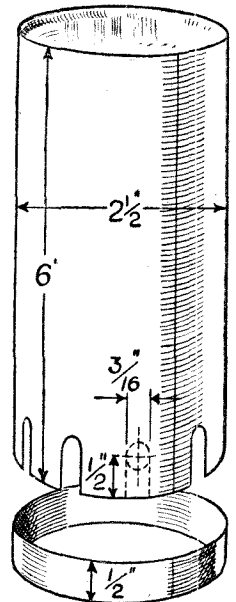

Fig. 2.—Details of a screening can which can be made from sheet copper.
H.T. battery. This type of valve is available with four-pin base, and the original anode pin in Fig. 2 should then be joined to the new H.T. tapping, whilst the lead shown in that illustration joined to the anode terminal will be connected to the top cap on the valve. A 4-pin H.F. pentode may, of course, be employed in place of the S.G. valve. A variable-mu type of valve cannot be used in a straight detector stage unless the variable characteristics are neglected, and a straight type of valve is therefore called for.
If it is considered desirable to screen the coils completely there are two effective methods. One is to obtain screening cans about 2 1/2 ins. in diameter by approximately 6 ins. long. The coils would then be fixed to the base or lid with small angle brackets, or by fitting them over 1 1/2 in. diameter wooden discs placed over the lids and held in place with central screws passing through the discs and the lids. Screening cans of this type are not readily obtainable nowadays, for it is customary to make coils a good deal smaller than described (this point was explained last week). But it might be possible to pick up screens from some old coils, or to make new screens from 20 gauge (approximately 1/16 in. thick) copper sheet. Details are given in Fig. 2.